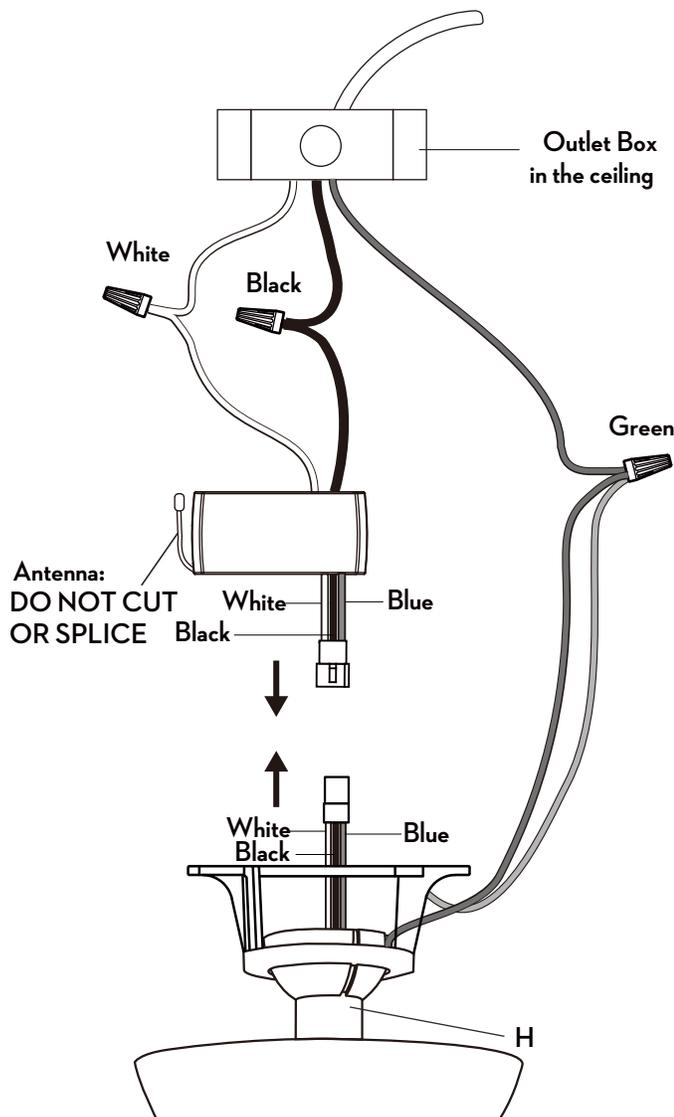

Figure 10
- Connect the receiver (D) to the fan wires by inserting the molded adaptor plug from the receiver (D) to the molded adaptor plug on top of downrod assembly (H), as illustrated in Figure 10.
- Use wire connectors (BB) to connect the receiver (D) and fan wires to the supply wires from outlet box according to Figure 10 and the following instructions: